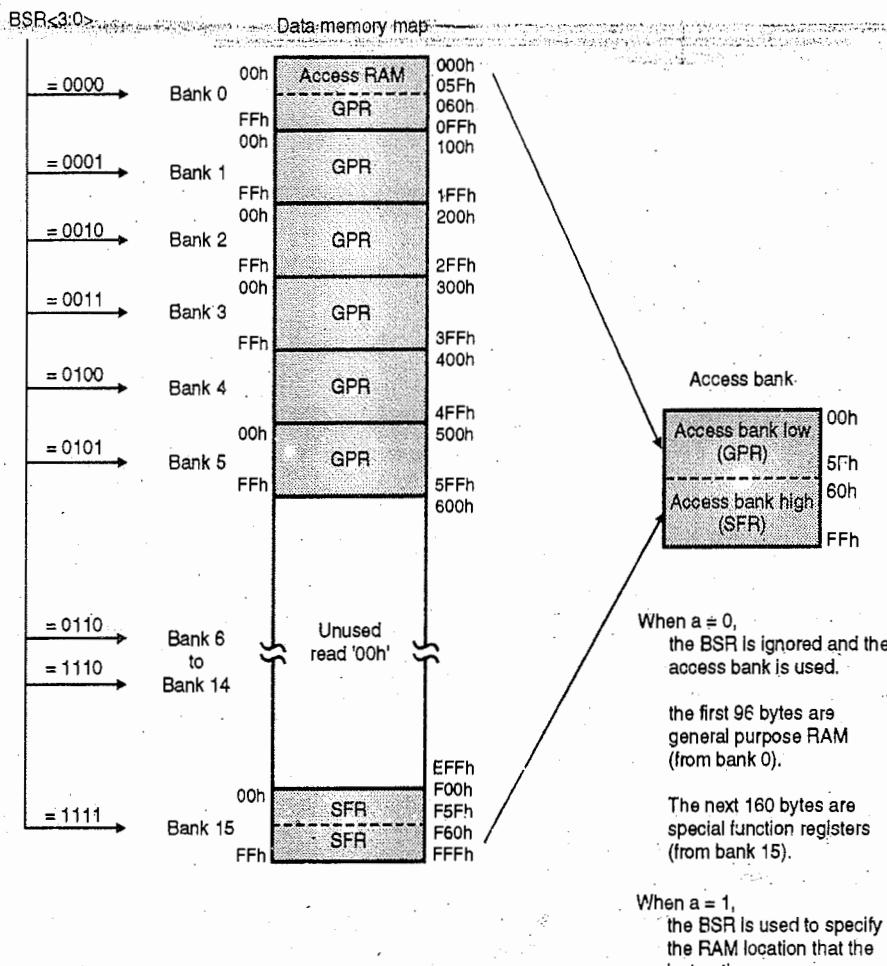

Fig. 4.9.5 : Data memory map for PIC18FXX8 device
- Fig. 4.9.5 shows the data memory organization for the PIC18FXX8 devices.
- **Two types of registers** are available in the data memory as shown in Fig. 4.9.5. They are :
- As shown in Fig. 4.9.5 the **Access Bank** is made up of Bank 0 GPR lower part and Bank 15 SFR higher part .It ensures that the commonly used registers can be accessed in a single cycle.
- As shown in Fig. 4.9.5 the two parts are called as Access bank low (GPRs) and Access bank high (SFRs).
- The **general purpose registers** are a group of RAM locations in the file register. Fig. 4.9.5 shows the general purpose registers. They are located from Bank 0 to Bank 14 in the data memory.